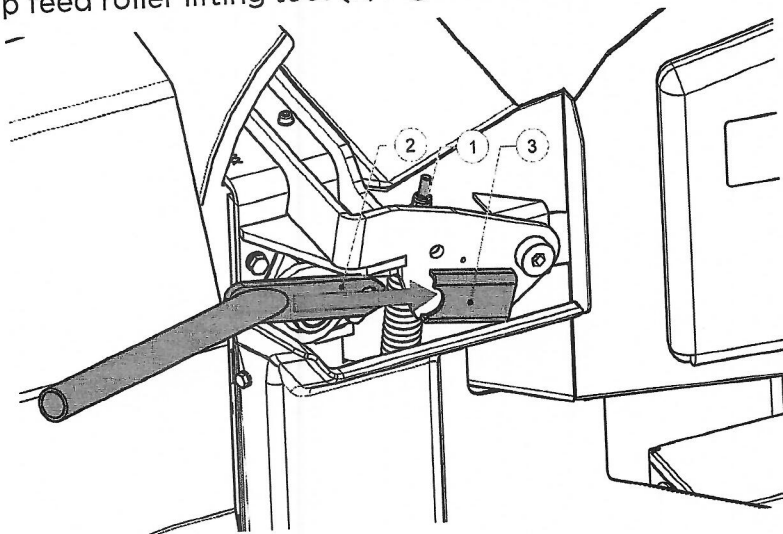

Figure 42 - Feed roller spring tension
11. Put the top feed roller lifting tool (2, Figure 42) into the slot (3, Figure 42).